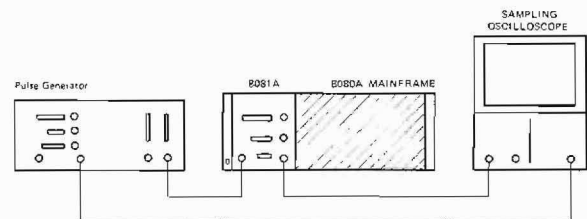

Figure 4-7. External Gate Mode (Fast) Test Setup
1. Set up the equipment as shown in figure 4-7 and set up the controls as follows: